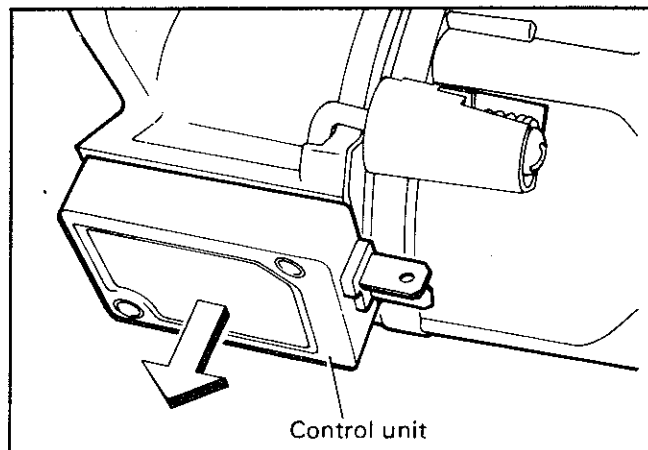

Fig. 8—Removing control unit
(2) Remove the two screws retaining the control unit. Pull it away from the distributor housing — Fig. 8.